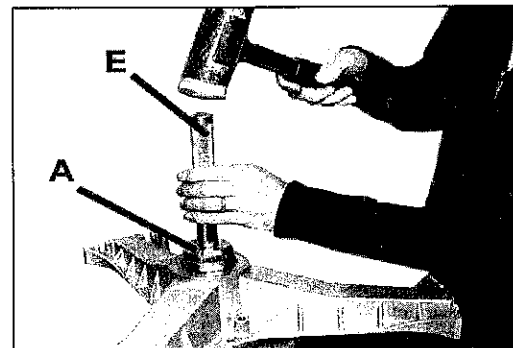

fig. 15
- Position the rear bearing in its housing (the numbered side of the bearing in the external part). Introduce it up to the end of the separator using **A** & **E** tools (fig. 15).